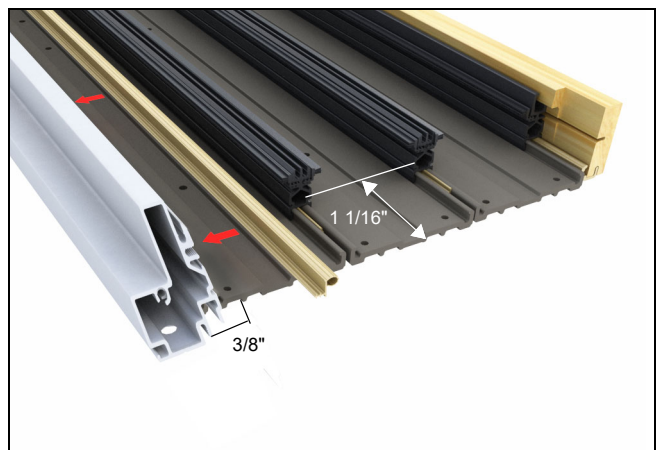

Figure 17
10. Insert bulb weather strip into kerf, adjacent to pile weather strip. See figure 17.